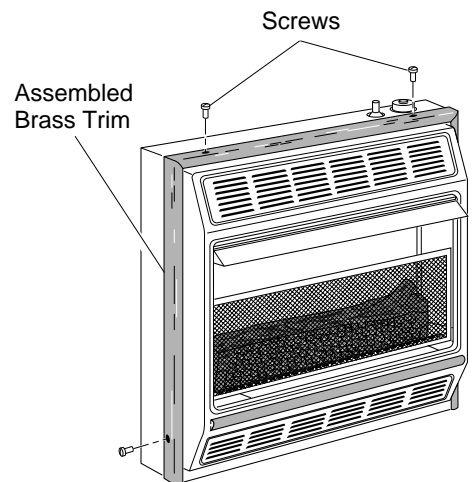

**Figure 4 - Assembling Heater**
4. Gently slide log between log retaining brackets on deflector assembly (see Figure 4, page 4). The log should fit firmly against bottom of log retaining brackets.
3. Line up screws with holes in front panel (see Figure 4). Insert screws in holes. Attach nuts from inside of front panel. Tighten with wrench.